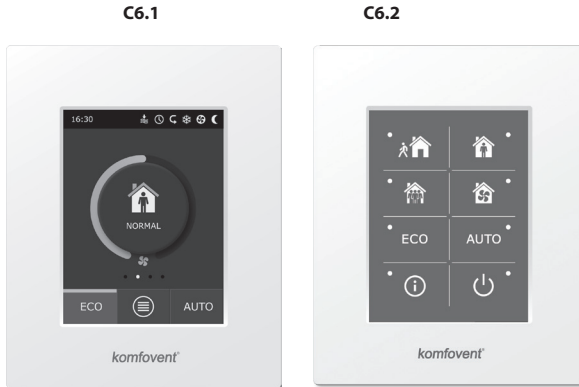

Fig. 2.1. Choice of control panels
The air handling unit can be operated by one of the following panels (Fig. 2.1).
* Only on the C6.1 panel (see Fig. 2.1)..